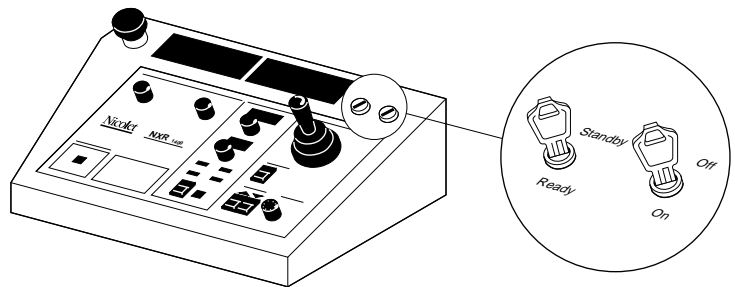

Figure 3 - Key switches
5. Insert the keys into the **AC Power** and **X-ray** key switches on the control panel (Figure 3).